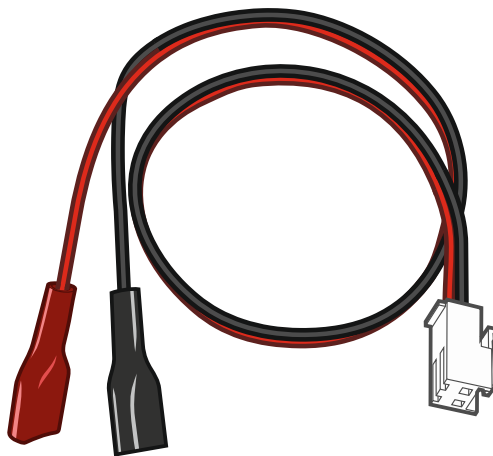

Fig. 3. Battery connection wires (red +, black -).
- ② RESET pins for emergency starting the control panel (see: “Emergency procedure of the control panel start-up” p. 26).
- ③ RS-232 (TTL) port.
- ④ connector for battery connection wires. The wires are included in the set (Fig. 3).
- ⑤ cable terminated with a connector for antenna. If the control panel is installed in a plastic enclosure, you can use an antenna that can be installed inside the enclosure